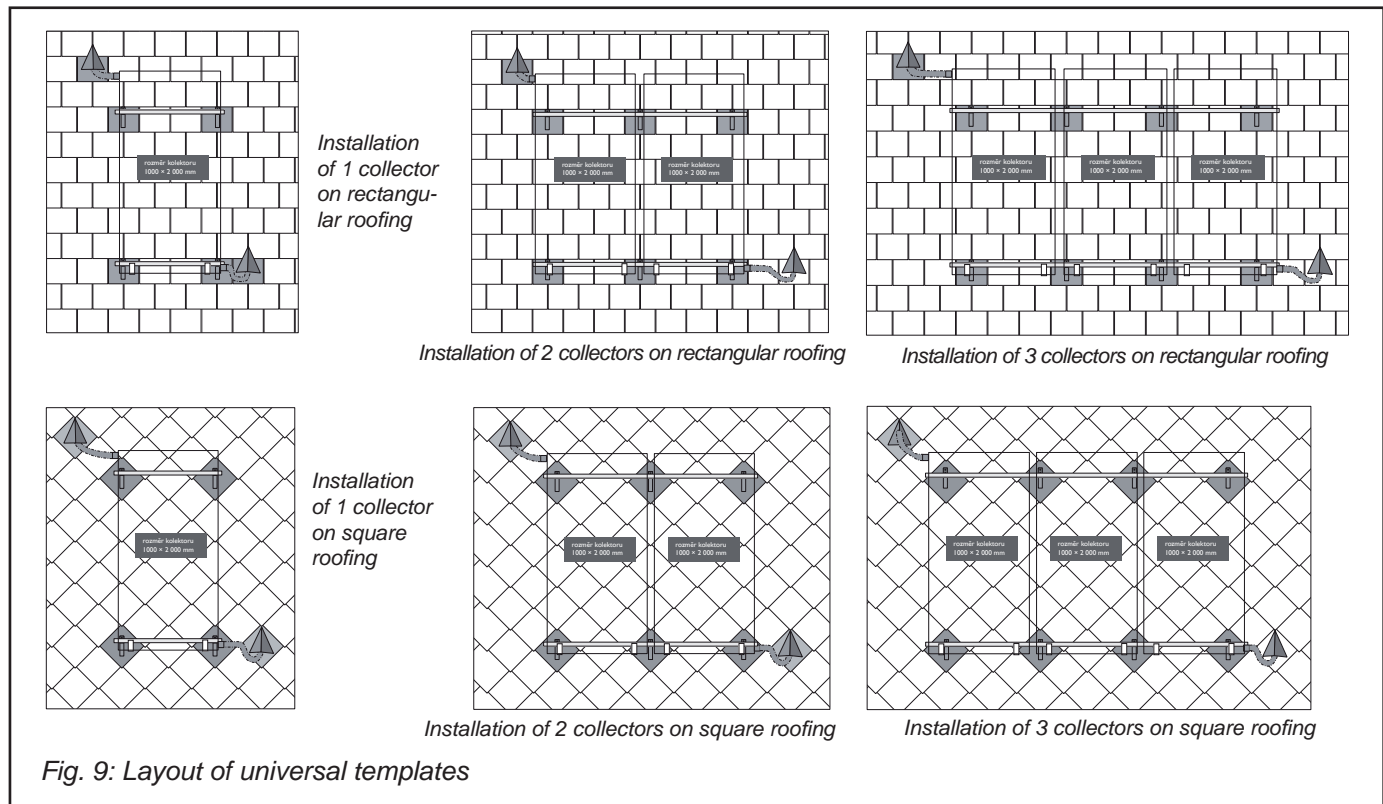

Fig. 9: Layout of universal templates
- Then mount the U-shaped bracket (Fig. 9) on the bolt, between two nuts with a split lock washer.
Distribute the universal templates on the roof in such a manner that the layout of fixing points corresponds to the Fig. 9.